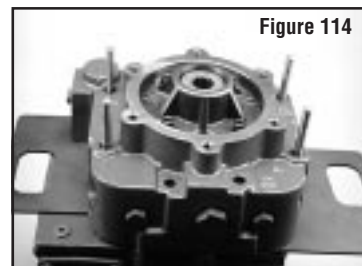

Figure 114
Aligning the pump end cover with the hold down arm assembly alignment tool (2) dowels, install the end cover. (see Figure 114)